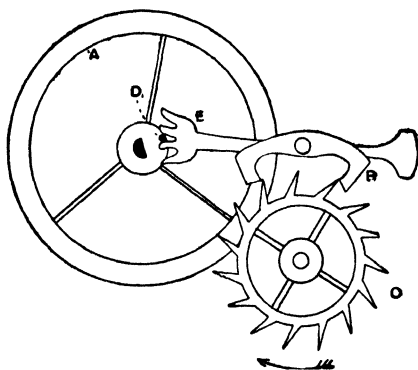

Fig. 8.—Escapement, Lever and Balance of Drum Clock
**A Spring-driven Balance Clock.**—Neither of the clocks so far described is truly portable. Moving them means a temporary interference with their time-keeping function. The commonest portable clock is, to all intents and purposes, a large edition of a watch (see Fig. 7). Instead of a pendulum, it has a balance (see A, Fig. 8), which is a flywheel mounted on pivots so as to spin quite freely. Attached to it is a hair-spring which causes the balance, when given an impulse, to vibrate backwards and forwards, moving a less and less distance each time, until it comes to rest. It thus acts in a similar way to a pendulum and forms a time measurer, because each vibration, whether long